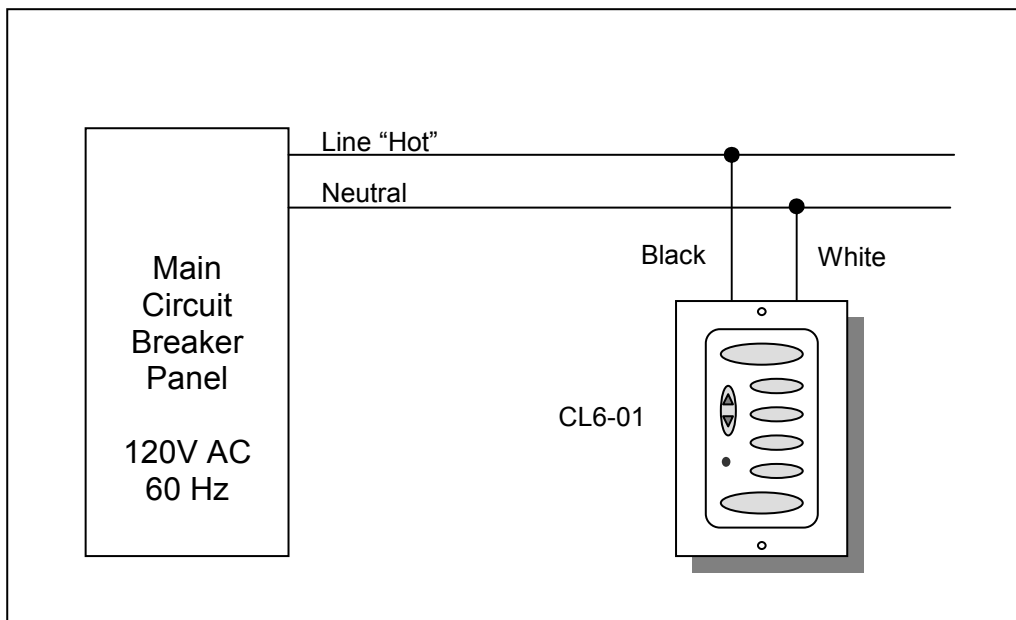

Figure 2: Wiring Diagram
- 3) Connect the CL6-01 to the following electrical wires (see Figure 2 for reference):